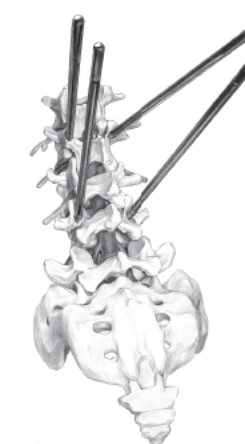

Fig. 2b
- After placement of the four SCHANZ Pedicle Screws I, fluoroscopy is performed to ensure that the anterior cortical bone of the vertebral body has not been penetrated (Fig. 2b).